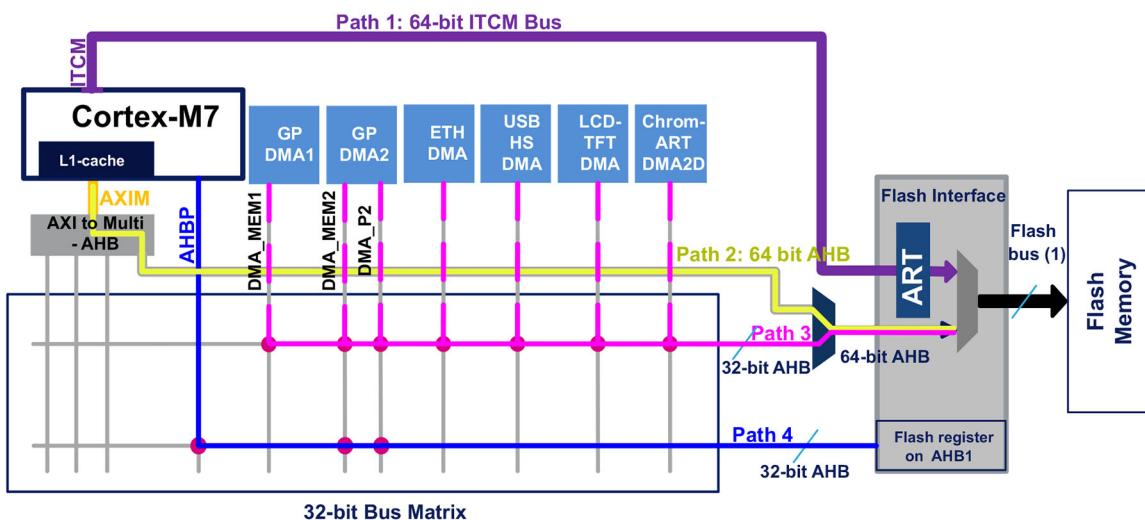

Figure 3: How the flash memory is accessed in an STM32F7 MCU
Looking at Figure 3¹⁰, you can see that the Cortex-M7 core has three distinct paths to access the flash controller (and so the flash memory). Before we describe these three paths, it is important to note a fundamental thing: the Cortex-M7 core already provides an integrated L1-cache. This cache has two dedicated cache pools, each one 64KB wide, one dedicated to the *I-Bus* and one for the *D-Bus*: this differs from other STM32 families, where data and instruction caches are implemented exclusively inside the ART™ Accelerator.
- * **A 64-bit ITCM interface**: it connects the embedded flash memory to the Cortex-M7 via the ITCM bus (Path 1 in Figure 3) and it is used for the program execution and data read access for literal values. **The write access to the flash memory is not permitted via this bus**.
*** A 64-bit AHB interface:** it connects the embedded flash memory to the Cortex-M7 via the AXI/AHB bridge (Path 2 in **Figure 3**). It is used for the code execution, read and write accesses. The flash memory is accessible by the CPU through AXI/AHB bridge starting from the address `0x0800 0000` and it is cacheable (that is, it can use the L1-cache) reaching the same *0-wait* performances of the ART™ Accelerator. The L1-cache in Cortex-M7 cores can range from 4KB to 16KB. STM32F74xxx and STM32F75xxx MCUs provide two cache pools, one for the instructions (*I-Bus*) and one for the literal pools (*D-Bus*), each one 4KB wide. Instead, STM32F76xxx and STM32F77xxx MCUs provide two cache pools each one 16KB wide. The L1-caches on all Cortex-M7 cores are divided into lines of 32 bytes. Each line is tagged with an address. The data cache is 4-way set associative (four lines per set) and the instruction cache is 2-way set associative. This is a hardware compromise to keep from having to tag each line with an address.
*** A 32-bit AHB interface:** it is used for DMAs transfers from the flash memory (Path 3 in **Figure 3**). The DMAs flash memory access is performed starting from the address `0x0800 0000`.
A fourth path exists (see **Figure 3**) through the *Advanced Bus Peripheral* (AHBP) interface, and it is reserved to the access to flash peripheral registers inside the `0x4000 0000` peripheral mapped region.